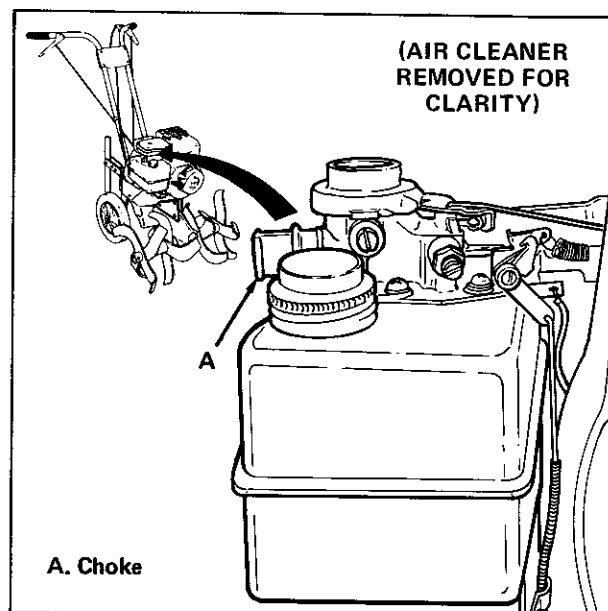

Figure 3. Choke
2. Pull choke (item A, figure 3) fully outward.